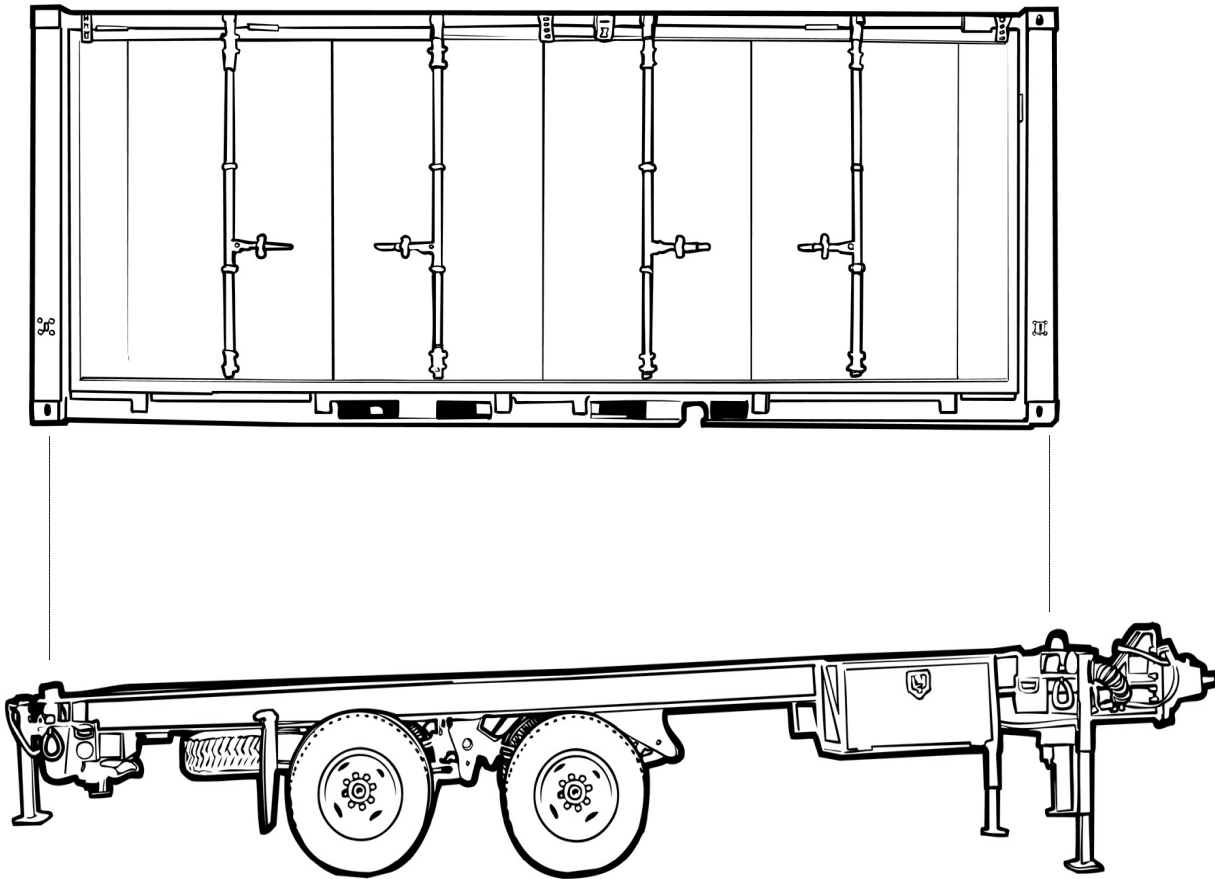

Figure 3. Mounting the CK on the Trailer.
2. Lift the CK and place it on the trailer. See Figure 3. Ensure that the container rests flat on the trailer and the corner blocks are positioned over the ISO locks.